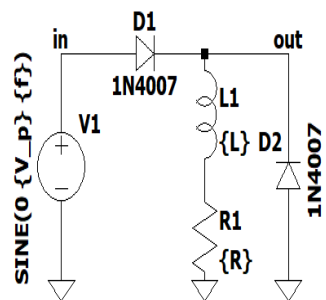

Figure 2.2 Half Wave Rectifier with freewheeling diode
5. Repeat 3 with replacing capacitor by freewheeling diode as shown in Figure 2.2, then obtain the output,  $V_{rms}$ , and its Fourier components.